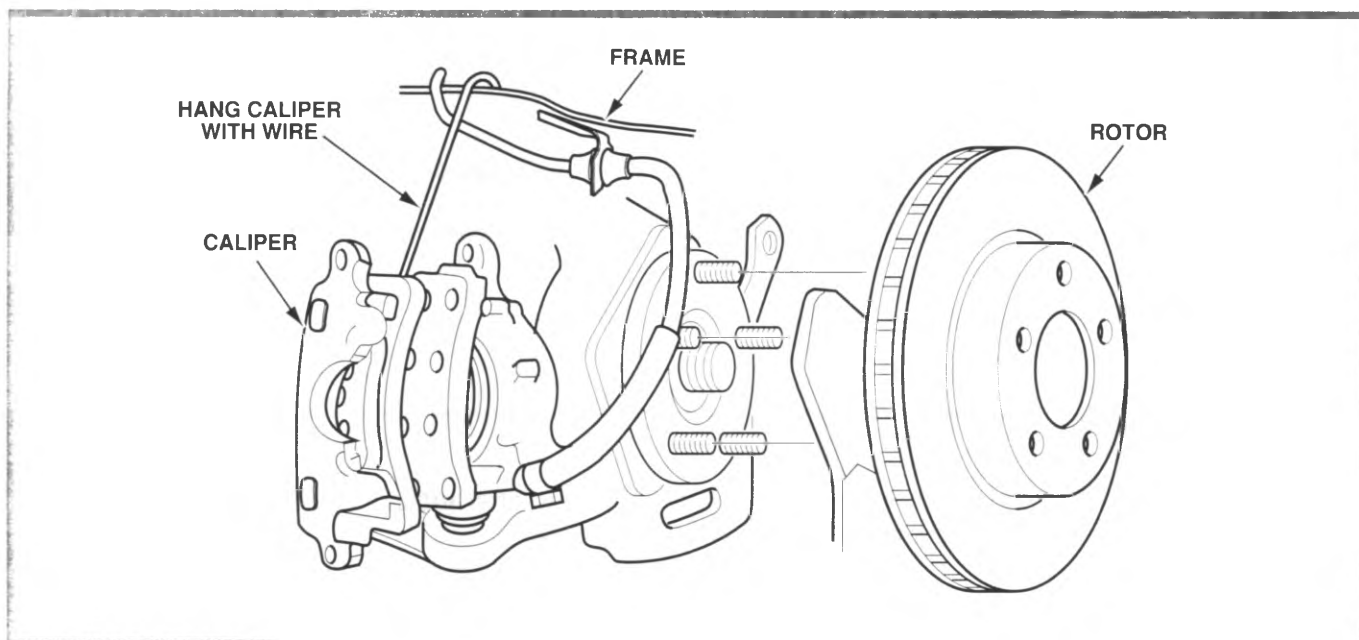

Figure 6-9, Suspend Caliper
2. Suspend the caliper (figure 6-9).